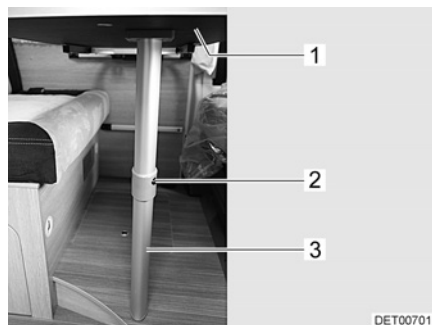

Fig. 42 Bed foundation
- Slightly raise the front of the table top (Fig. 42,1).
- Press the release knob (Fig. 42,2) and fold the lower part of the fold-out leg (Fig. 42,3) by 90°.